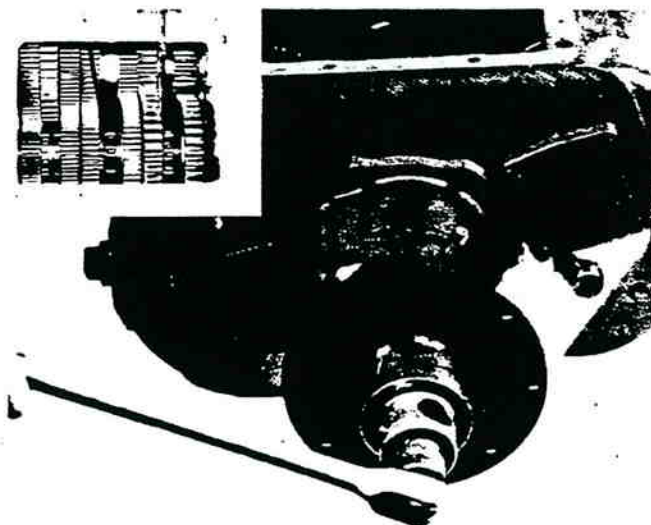

Figure 13-16. Stop Nut Removal.
- 2 Remove the elastic stop nut from the output shaft (figure 13-16).